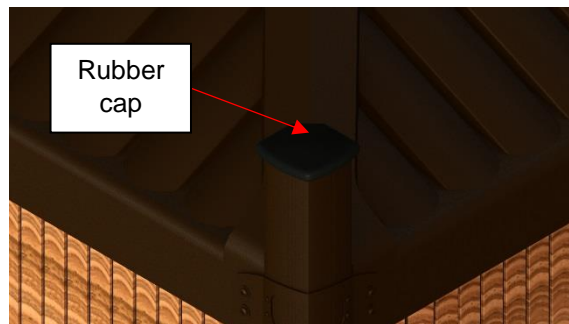

Figure 20
- 2) Remove rubber cap on top of each post. (Figure 20)
12) Reinstall the rubber cap on top of the post. (Figure 20)